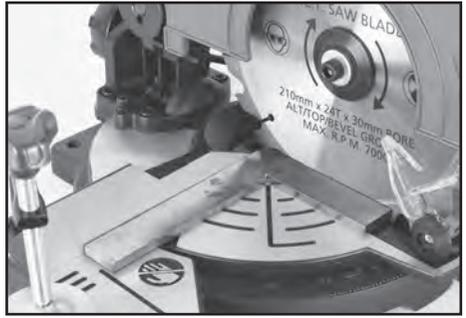

FIG. 11
8.9 CHECKING THE FENCE TO BLADE ALIGNMENT – FIG.11